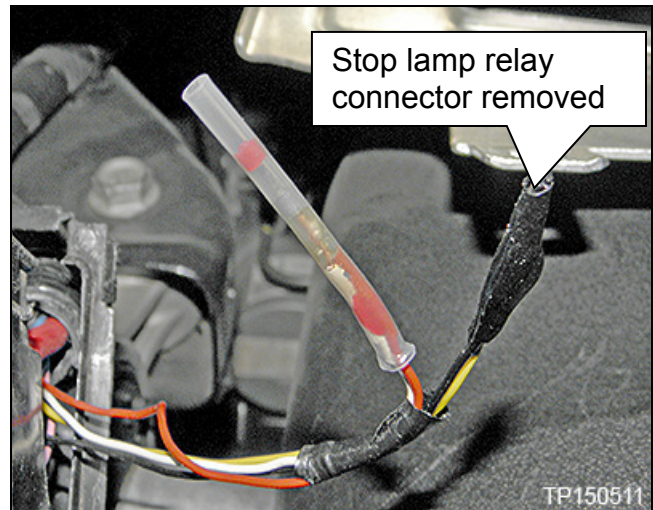

Figure 12
13. Cut the remaining two wires (yellow and black; Figure 12) from the stop lamp relay connector, and discard the connector.